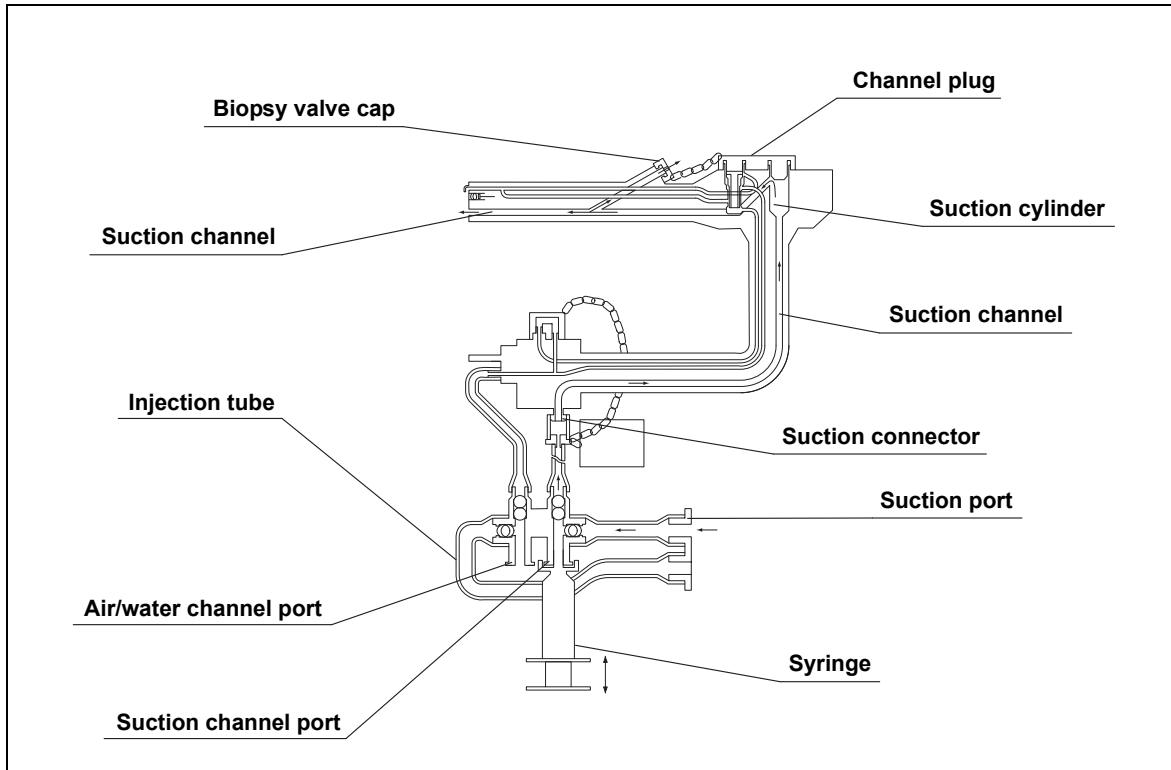

Figure 3.30
3. Attach the 30 cm3 (30 ml) syringe to the suction channel port and inject 90 cm3 (90 ml) of clean water into the suction channel (see Figure 3.30).
7. Attach the 30 cm3 (30 ml) syringe to the suction channel port and flush the suction channel with 90 cm3 (90 ml) of air (see Figure 3.30).